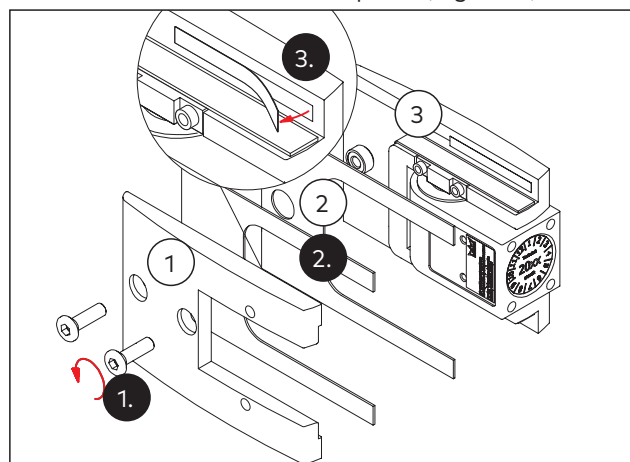

Fig. 14 Preparing the double-action hinge
1. Unscrew the counter-plate (Fig. 14/1).
2. Select the appropriate gaskets (Fig. 14/2) according to the glass thickness (see Chapter 4.1).
3. Peel off the protective film of the adhesive tape on the base- and counter-plate (Fig. 14/3).